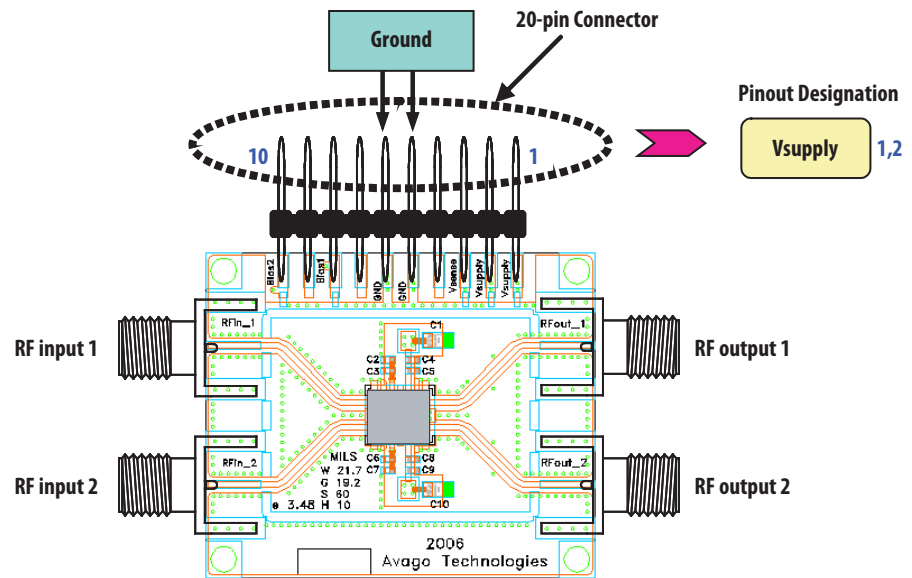

Figure 5. Demo Board Layout Diagram
$T_A = 25\text{ }^\circ\text{C}$, $V_{dd} = 5\text{V}$ @ 280mA, RF performance at 2.0 GHz, given for each of the 2 RF paths, measured on demo board (see Fig. 5) unless otherwise specified.
- Measurements at 2GHz obtained using demo board described in Fig 5.